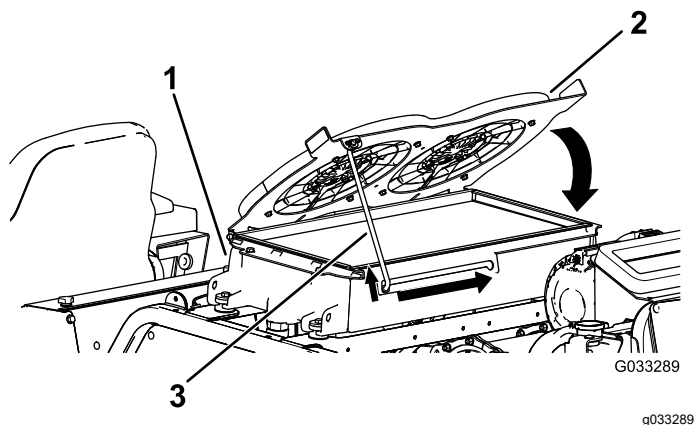

Figure 122
4. Pivot the hydraulic-cooling fans downward and lock the prop rod into the notch (Figure 122).